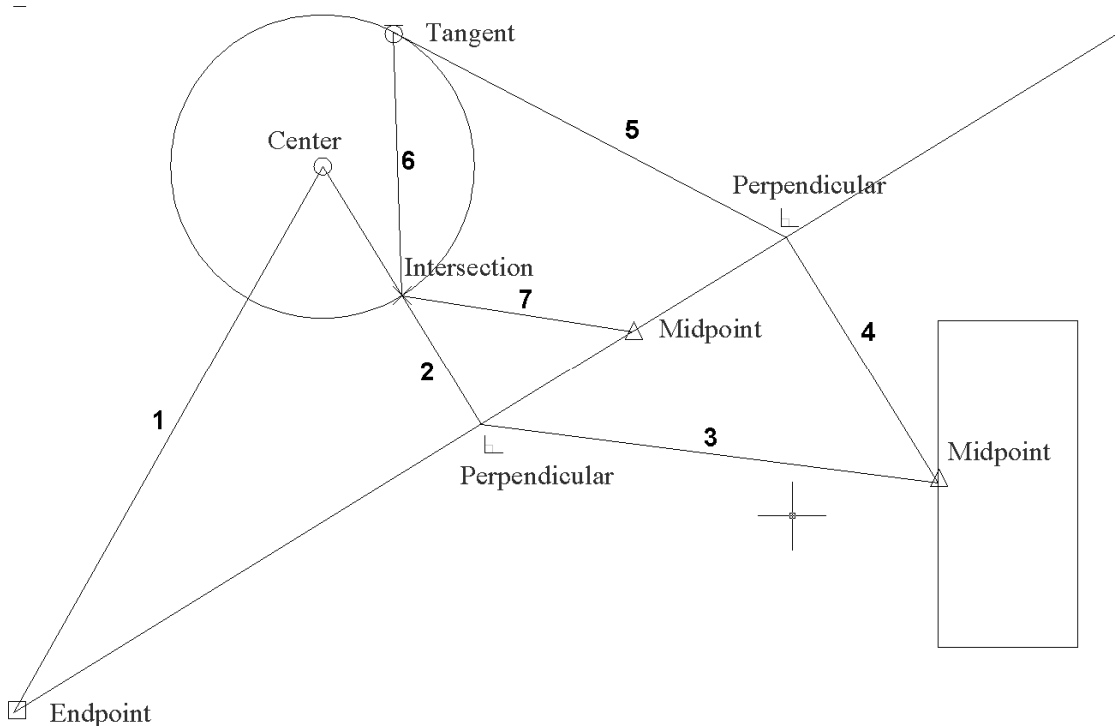

Figure 2-2.7 Several lines added using running OSNAPS.
8. Draw the additional lines shown in **Figure 2-2.7** using the appropriate *Object Snap* (changing the Running Snap as required to select the required point).